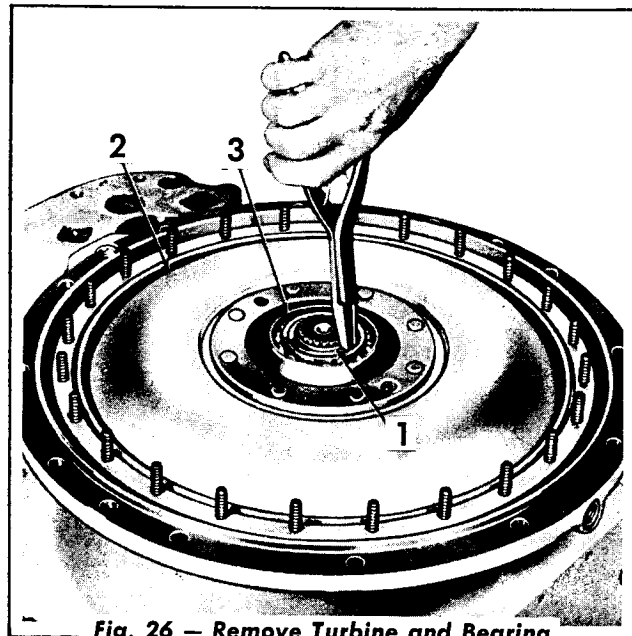

Fig. 26 - Remove Turbine and Bearing
2. Freewheel Rollers (10)
3. Freewheel Roller Springs (10)
10. Using snap ring pliers, remove the snap ring (Fig. 26) from the converter shaft. Remove as a unit, the turbine and the bearing.